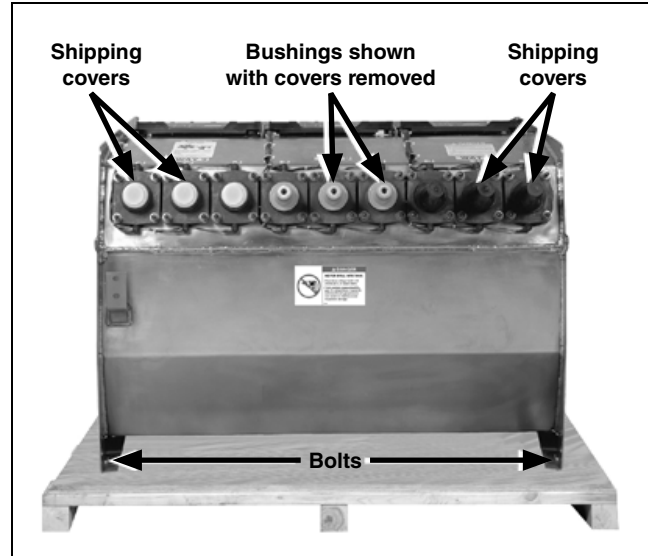

Figure 78. A Vista switchgear tank bolted to a skid in four places for shipment (manual unit shown for illustration purposes).
- STEP 2.** Unbolt the tank from the skid, remove the tank from its crate, and lift the gear into place, observing the precautions in the “Handling” section on page 8. See Figure 3 on page 8 and Figure 78.